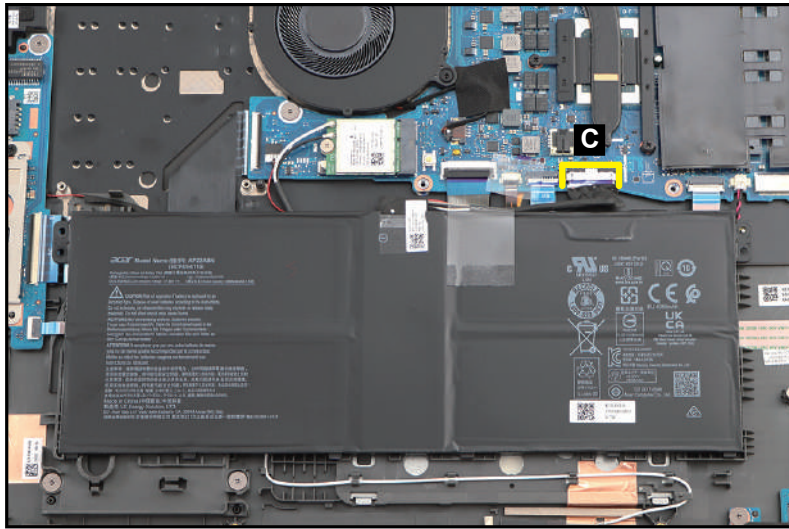

Figure 3-9. Battery Pack Removal
3. Disconnect the battery cable from the mainboard connector (C) (Figure 3-9).